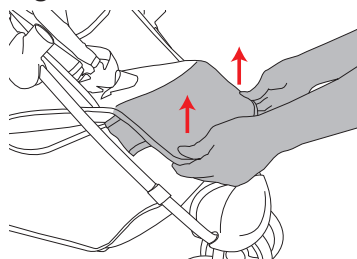

Figure 14
- To place the leg support into the horizontal position, pull up on both sides of the leg support until it is locked into position. See Figure 14.